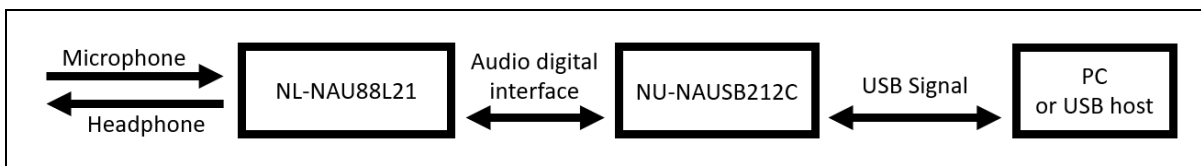

Figure 2-5 Signal Path of NU-NAUSB2I2C and NL-NAU88L21
3. CN2 of NU-NAUSB2I2C uses USB Cable to connect to a PC under Windows system. (If possible, please do not connect to the PC through USB HUB). Figure 2-5 shows the audio signal path after the two boards are connected to each other.